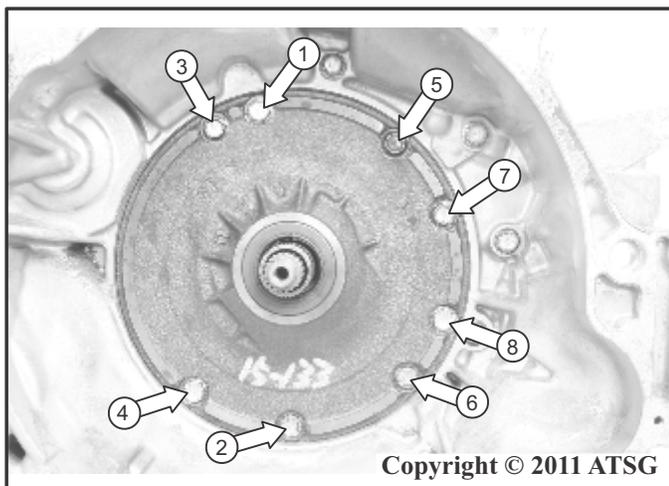

Figure 31
31. Remove the eight pump assembly to case attaching bolts as shown in Figure 31.